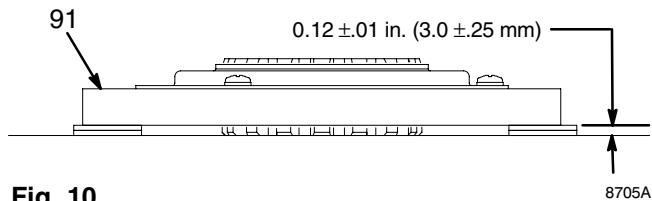

Fig. 10
1. Fig. 10. Lay two stacks of two dimes on smooth bench surface.
2. Lay armature (91) on two stacks of dimes.